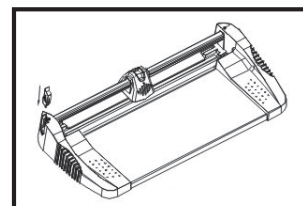

Fig 4.
**Step 6:** Replace the end cap (Fig 4).